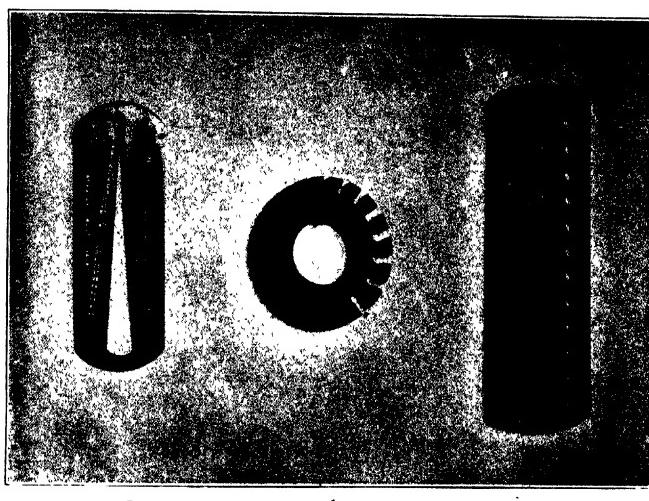

Fig. 220. Screw- and Wire-Gages.
*Screw- and wire-gages*, Fig. 220, are useful in measuring the lengths and sizes of screws and wire when fitting or ordering.